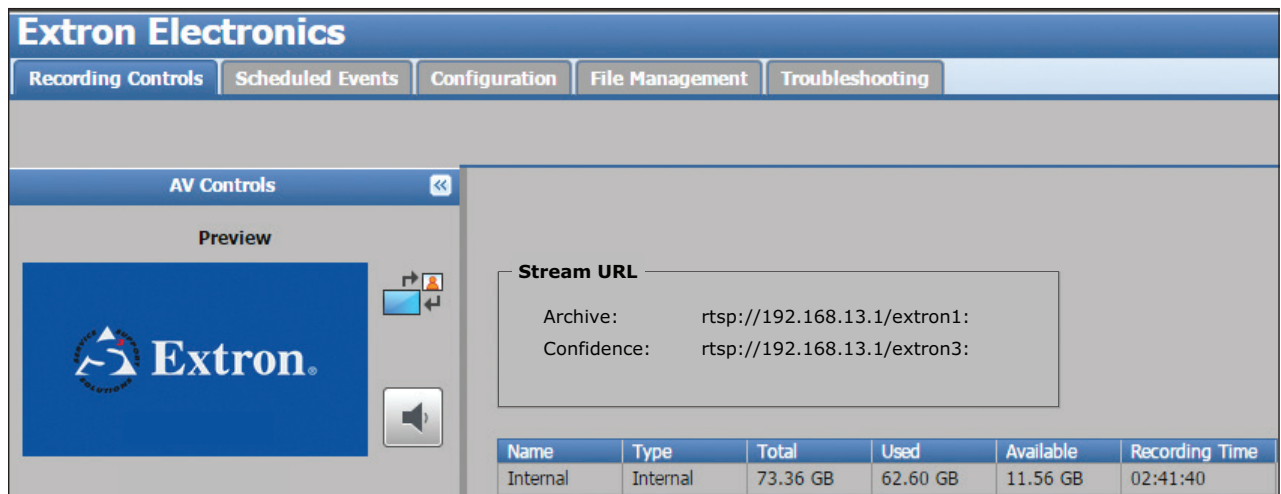

Figure 74. Recording Controls Page
2. The Recording Controls page opens (see figure 74).